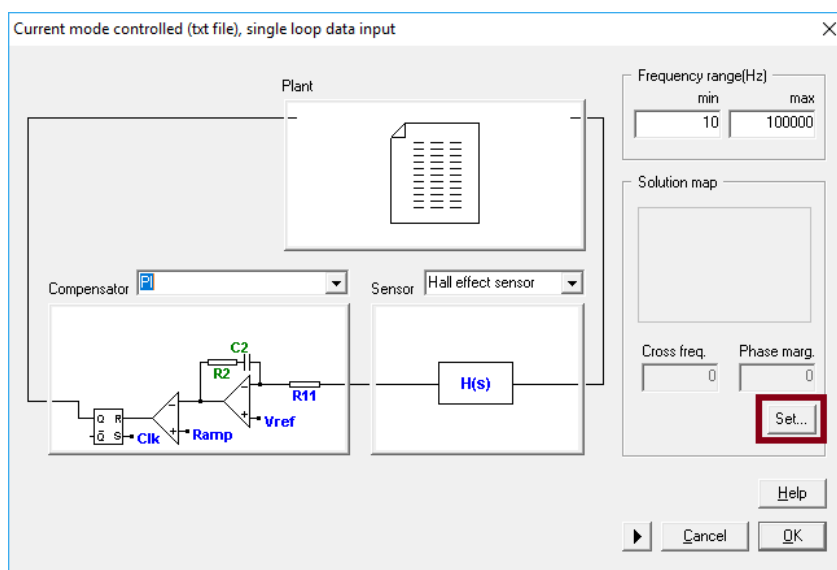

Figure 12: Access to solution map
5. Once all the control elements have been defined, the crossover frequency and the phase margin must be selected. Click on the "Set.." button and the solutions map will be displayed. See Figure 12.